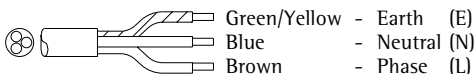

fig. 4
- (Fig. 4) For 220V-240V 1 Phase/neutral with plug socket.
- (Fig. 4) For 220V -240V 1 Phase/neutral (3 core electric cable).
The following remarks apply to figure 4:
The three core main cable (fig. 4) has the following wiring code: